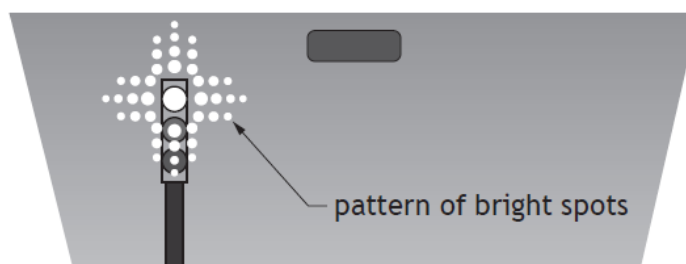

Figure 10A
This is shown in Figure 10A.
- (a) Explain how the two-dimensional pattern of bright spots shown in Figure 10A is produced. 2